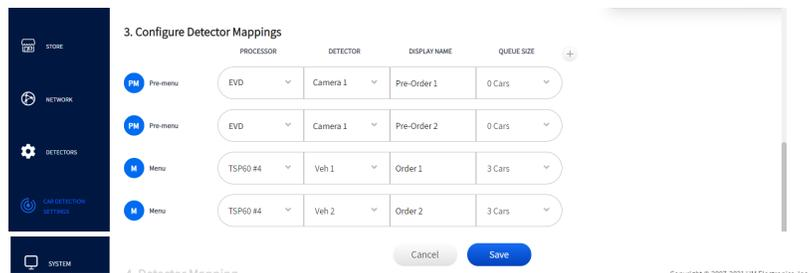

Fig. 7.5
- Scroll down to Configure Detector Mappings. You will see the Pre-Menu EVD detectors included. See top two rows of Fig. 7.5. Click the Save button to save your change.